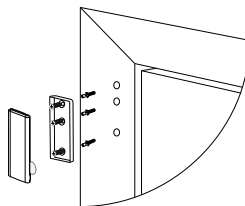

Figure 5: Device screw installation
- Screw the device base onto the door frame. See Figure 5.